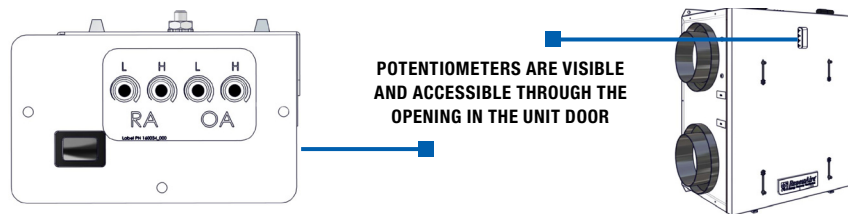

FIGURE 4.6.1 FAN SPEED CONTROL POTENTIOMETERS
- Take a differential pressure reading for the OA airstream by installing the “high” pressure side (+) of the measuring device to the OA port and the “low” pressure side (-) to the SA port. Compare the pressure drop to the chart in section 5.2.1 to obtain the CFM. Adjust the fan speed potentiometer (See figure 4.6.1) to obtain the desired CFM. Enter the CFM information in the box in section 5.2.2.
- Take a differential pressure reading for the RA airstream by installing the “high” pressure side (+) of the measuring device to the RA port and the “low” pressure side (-) to the EA port. Compare the pressure drop to the chart in section 5.2.1 to obtain the CFM. Adjust the fan speed potentiometer (See figure 4.6.1) to obtain the desired CFM. Enter the CFM information in the box in section 5.2.2.
- After adjusting the potentiometers, take additional readings as needed to verify that fan speed settings are correct. See Figure 4.6.1.